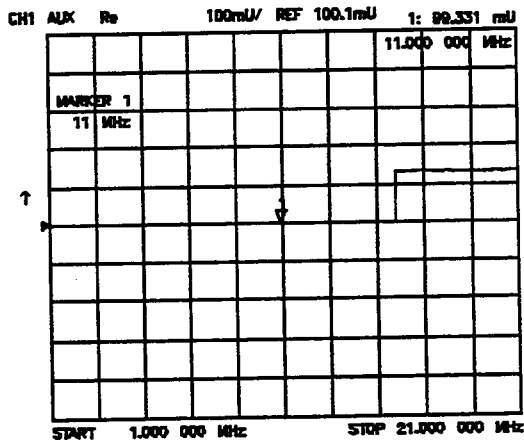

Figure 9. High/Low Band Transition Adjustment Trace
- Left half of trace = 0 ± 1000 mV and right half of trace = 100 to 200 mV higher (one to two divisions, see Figure 9): no adjustment necessary.